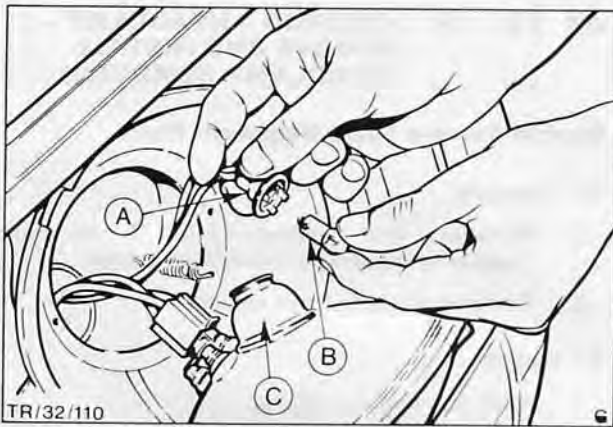

Fig. 10. A – Bulb holder
- 2. Withdraw bulb and holder from rear of headlamp unit, Fig. 10.